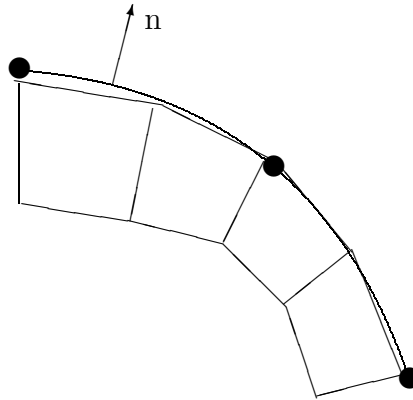

Figure 5.10: Two-Dimensional Surface Loading
*FEAPpv* will search for all nodes which are closer to the interpolation patch than **GAP** (default is  $10^{-3}$ ). Using the element boundary segments which have outward normals to the patch (by right hand coordinate rule as shown for a two-dimensional problem in Figure 5.10) will be located and the values interpolated to nodes. For tractions the equivalent nodal loads will be computed. In two dimensions it is not necessary for the interpolation patch to exactly match the element boundary segments.